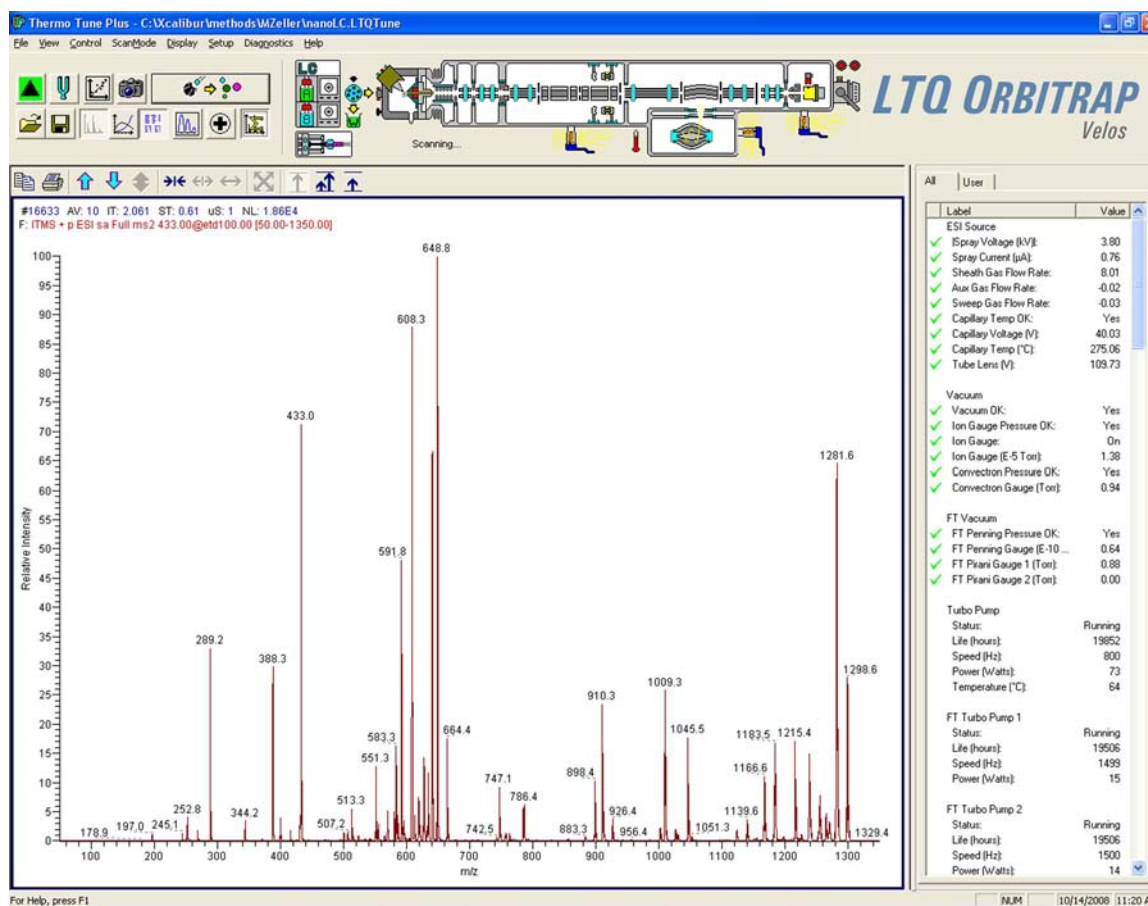

Figure 7-29. ETD MS/MS spectrum of Angiotensin I
8. Click **OK** in the Define Scan dialog box. The Define Scan dialog box closes and the ETD MS/MS spectrum of Angiotensin I appears in the Tune Plus window. See Figure 7-29 on page 7-31.